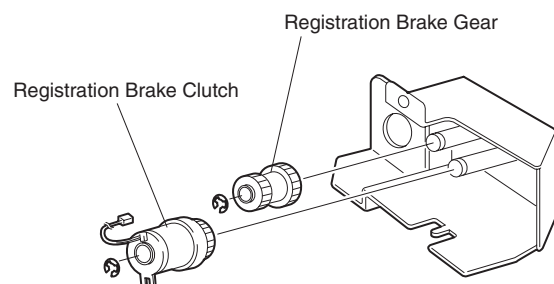

Figure 3
4. Remove the E ring securing the Registration Brake Clutch to the Clutch shaft and remove the Clutch (Figure 3).
1. Reinstall the Registration Brake Gear onto the Gear shaft and use an E ring to secure the Gear (Figure 3).